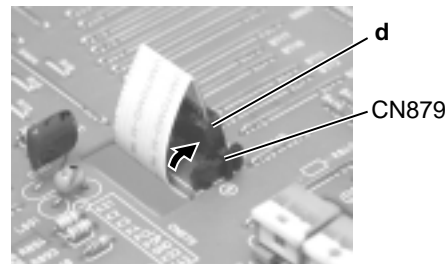

Fig.15
2. Disconnect the card wire from connector CN879 on the main board (Before pulling out the card wire, stand the part **d** of CN879 as shown in Fig.15).